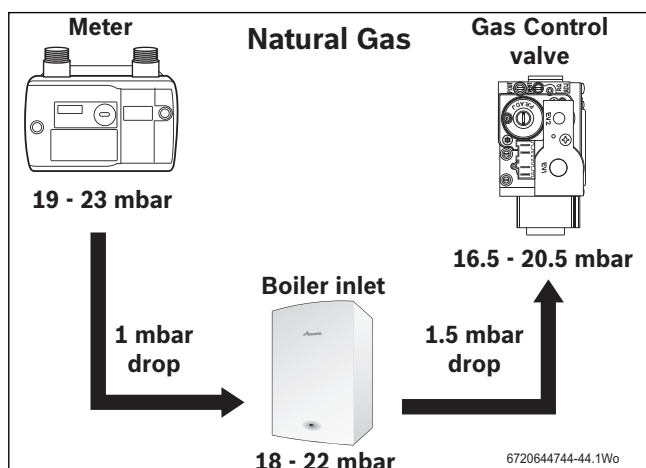

Fig. 47 Natural gas pressures
- ▶ Check the gas supply working pressure at the gas valve conforms to values shown in figures 47 or 48.